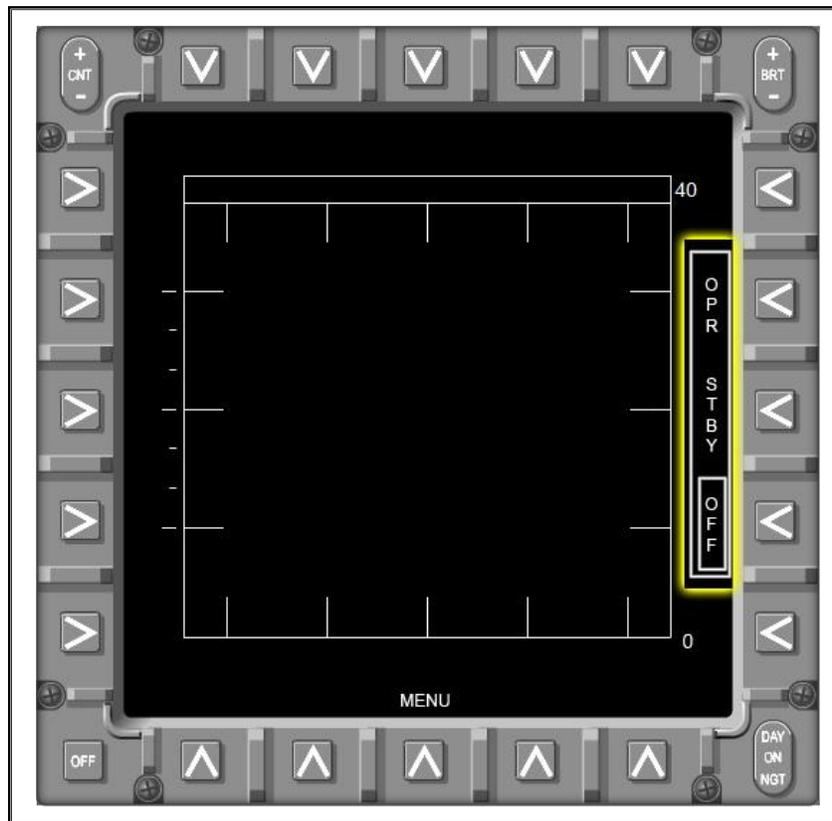

Figure 2-8 VMTS Radar Initialization
- i. Radar data sublevel is directly displayed (Figure 2-8)